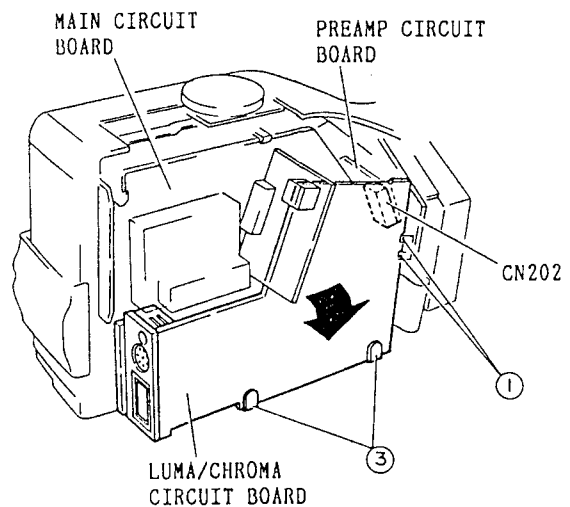

Fig. 2-20
10. Open the luma/chroma circuit board. (See Fig. 2-20)
1. Release two (2) tabs, and while disconnecting connector CN202 from the preamp circuit board, open the luma/chroma circuit board in the direction of the arrow. (See Fig. 2-20)
3. Release two (2) tabs of the circuit board holder and remove the luma/chroma circuit board. (See Fig. 2-20)
(See Fig. 2-20)
2. Open the luma/chroma circuit board. (See Fig. 2-20)
1. Open the luma/chroma circuit board. (See Fig. 2-20)